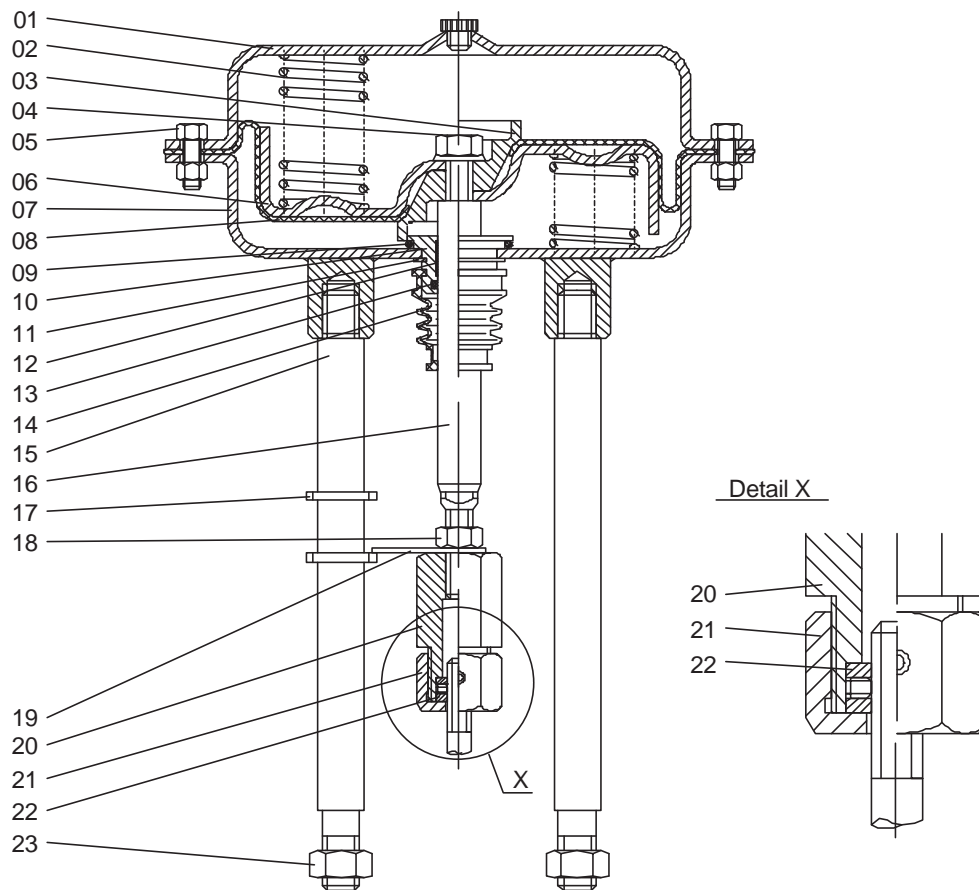

Fig. 1
Ensure that the actuator is readily assembled on the valve before setting. Release lock nut (18) (see fig. 1) on the actuator spindle (16) and screw slightly in the direction of the actuator. Temporarily remove the indicating plate (19) located beneath.